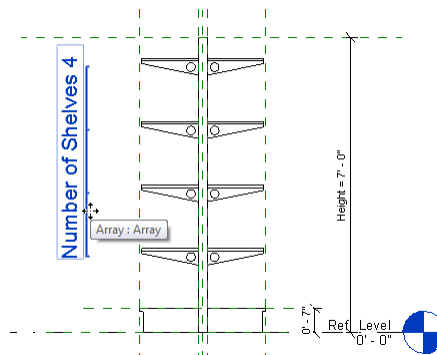

Figure 34
9. Label the array with the same **Number of Shelves** parameter (see Figure 34).